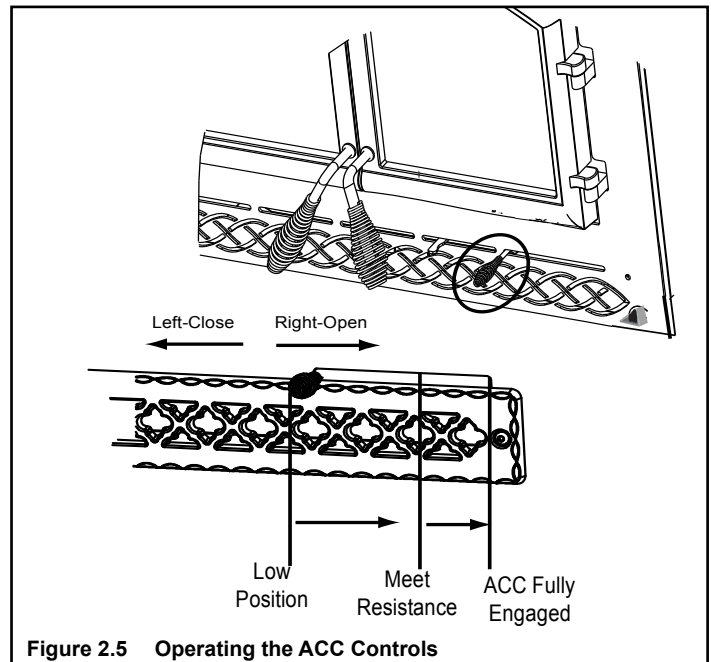

Figure 2.5 Operating the ACC Controls
2. Regulate burn rate (heat output) by using the Combustion Air Control. See Figure 2.5 on page 15.